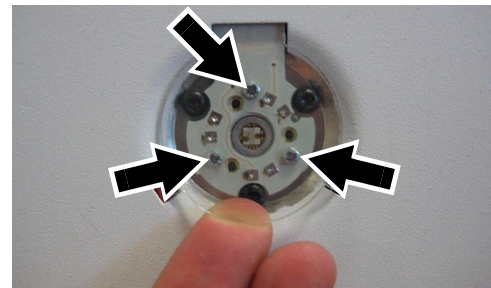

Figure 2: Front glass and retaining screws
2. See Figure 2. Unclip the front glass from in front of the LED you want to replace and remove the 3 retaining screws (arrowed) from the LED unit.